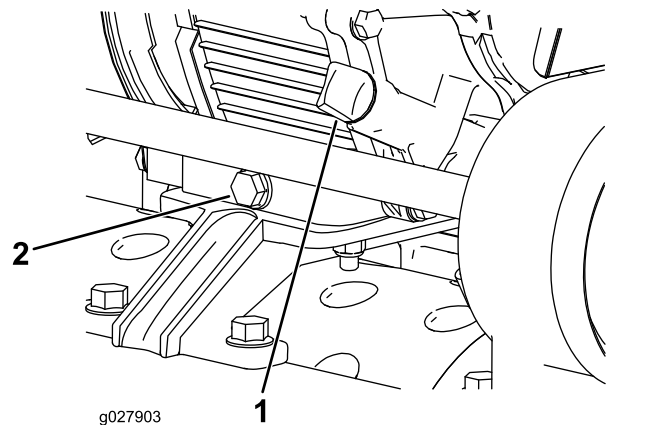

Figure 23
1. Position the machine so that the engine is level, and clean the area around the oil-level gauge (Figure 23).
2. Place a drain pan at the rear of machine, under the drain plug (Figure 23).